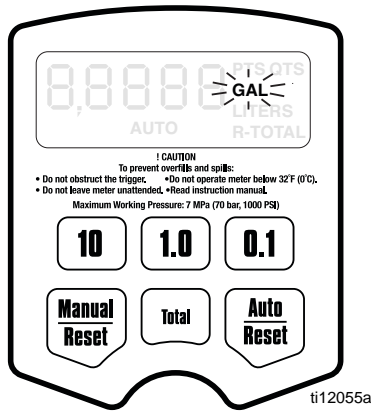

FIG. 25
- b. Press and hold the **Auto / Reset** button to display the Units of Measure Menu (FIG. 25, page 19). When this menu is displayed the last set Unit of Measurement blinks in the lower right corner on the screen.
Units of Measurement (Fig. 25)